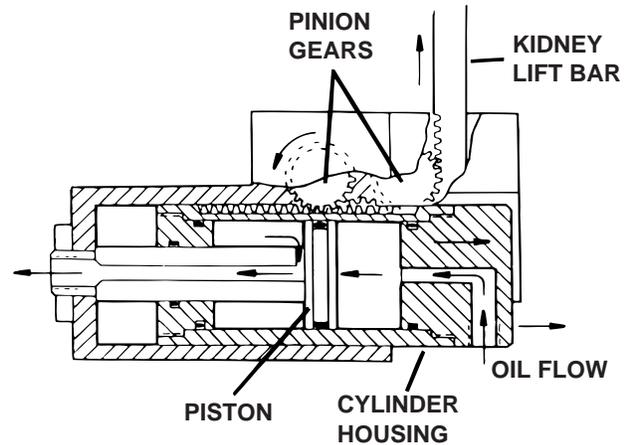

Figure 1-14. Kidney Lift Cylinder Assembly
5. Kidney Lift - The kidney lift cylinder assembly is a unique type of double action cylinder where the piston remains stationary and the outer housing or cylinder has the relative motion. The cylinder housing has rack teeth cut into the top which meshes with a pinion gear. This gear meshes with other gears to supply the up or down drive for the kidney lift bars, depending on which direction the oil is pumped into the cylinder. See figure 1-14. A cross shaft transmits the rotary motion of the cylinder pinion gear to a gear set on the other side of the table. This enables the kidney lift bars to move up and down together without binding.